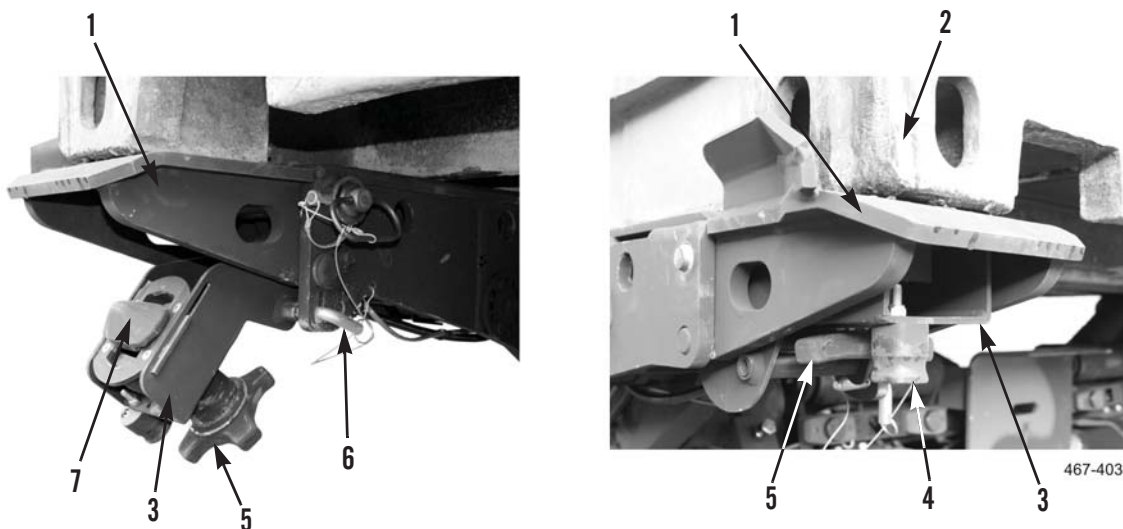

Figure 19. Release and Stow Rear Twistlocks.
1. Pull down handwheel locking pin (Figure 19, Item 4) and rotate to position that allows movement of handwheel (Figure 19, Item 5).
2. Loosen handwheel (Figure 19, Item 5) to release anvil (Figure 19, Item 7) in container corner casting (Figure 19, Item 2).
3. Rotate anvil 90° to position aligned with opening in corner casting and lower twistlock (Figure 19, Item 3) out of corner casting (Figure 19, Item 2).
4. Tighten handwheel (Figure 19, Item 5) until handwheel and anvil (Figure 19, Item 7) are secure within twistlock (Figure 19, Item 3).
5. Position handwheel (Figure 19, Item 5) to allow handwheel locking pin (Figure 19, Item 4) to fit between two fingers on handwheel.
6. Pull down handwheel locking pin (Figure 19, Item 4) and rotate into position between two fingers on handwheel (Figure 19, Item 5).
7. Remove locking pin (Figure 19, Item 6) from twistlock housing (Figure 19, Item 1), rotate twistlock assembly (Figure 19, Item 3) until aligned with forward hole in twistlock housing, and insert locking pin in forward position of twistlock housing.